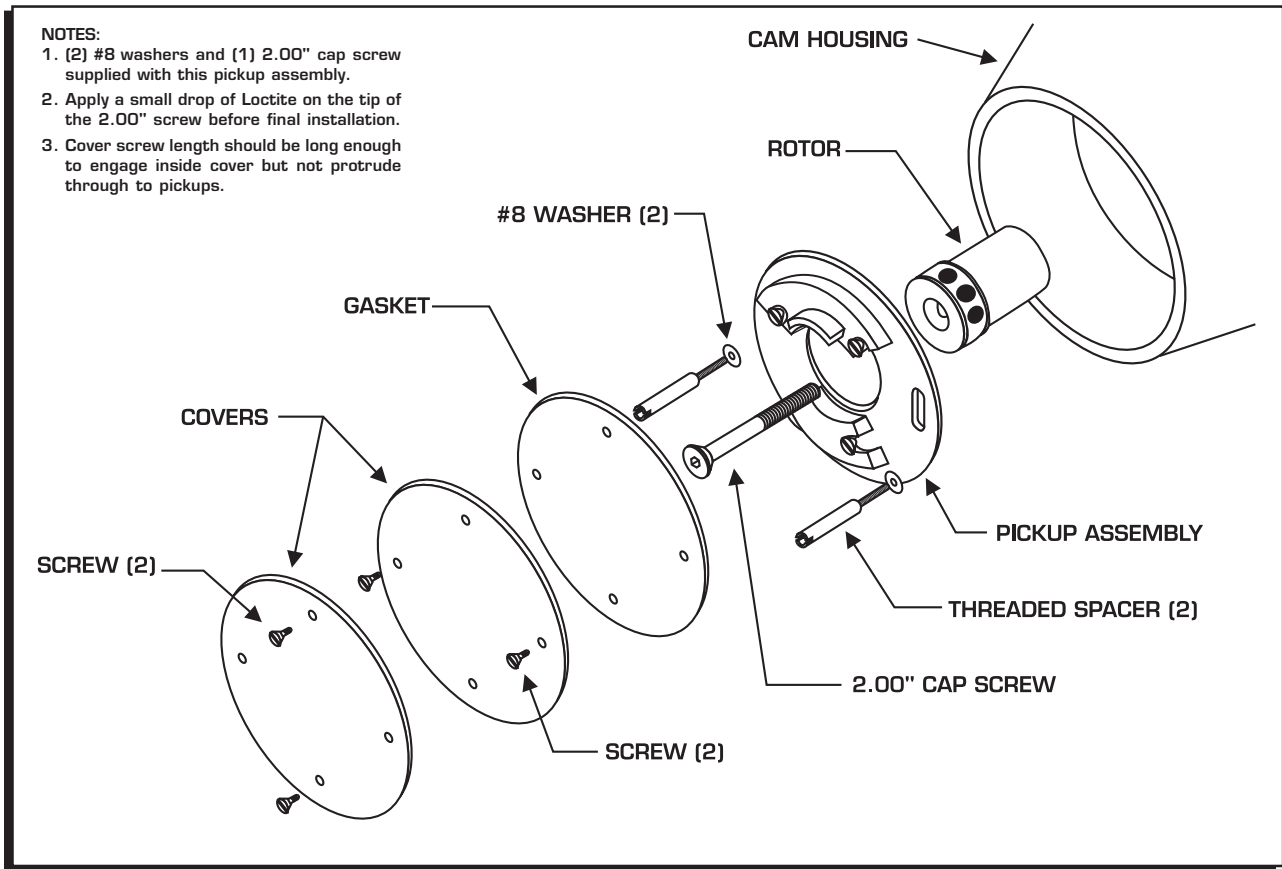

Figure 4 Installing the Pickup Plate Retainers.
2. Mount the MSD pickup plate inside the housing (Figure 4). Note the “adjusting notch” on the edge of the plate. This notch must be located over the series of “steps” inside the housing (about the 7 o’clock position as you face the housing). One of the sensor units will be at approximately 12 o’clock.
3. Install the hold-down/standoff screws with flat washers and turn them snug, **do not tighten at this time** (Figure 4).